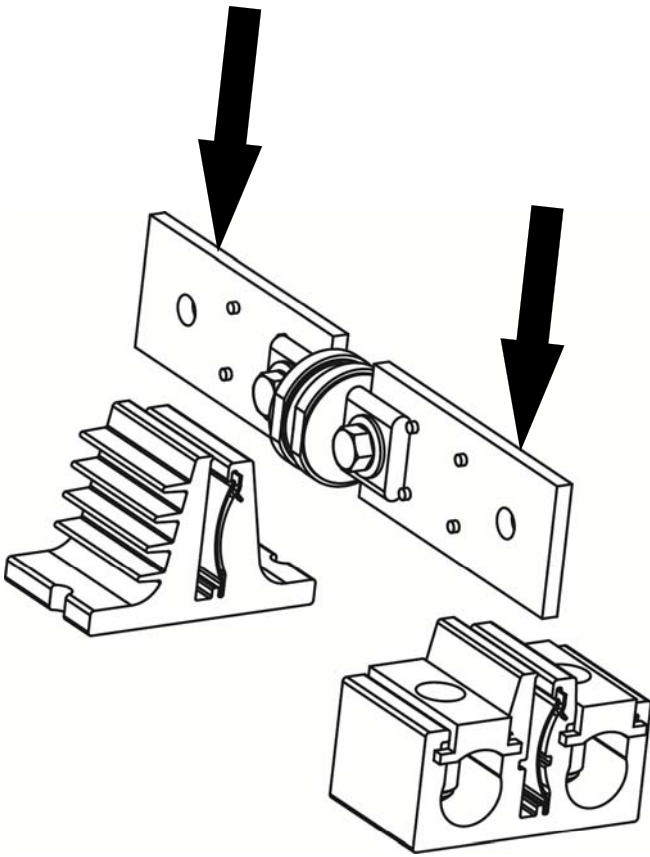

Fig. 3
3. Align "T" Fuse assembly over fuse clip assemblies as shown in Fig. 3 & 4.